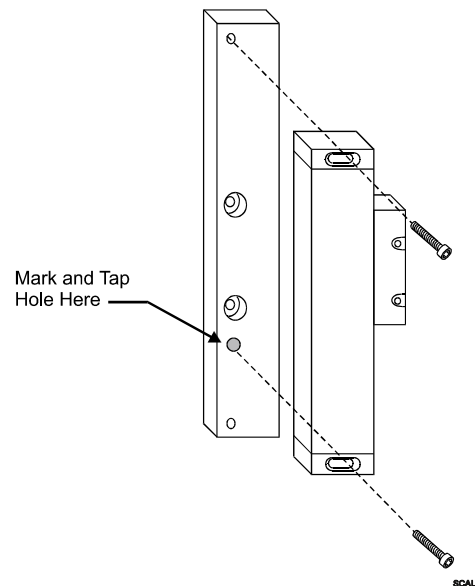

Figure 3-51, Installing the Z-Axis Linear Encoder
8. Use two 6-32 x 1" socket head screws, P/N 86100141, provided to mount the linear encoder on the backer bar. Refer to **Figure 3-51, Installing the Z-Axis Linear Encoder**. Indicate the edge of the scale. Ensure that it is aligned with the quill's vertical travel, ± 0.002 ". Next, indicate the face of the scale to ± 0.002 ".